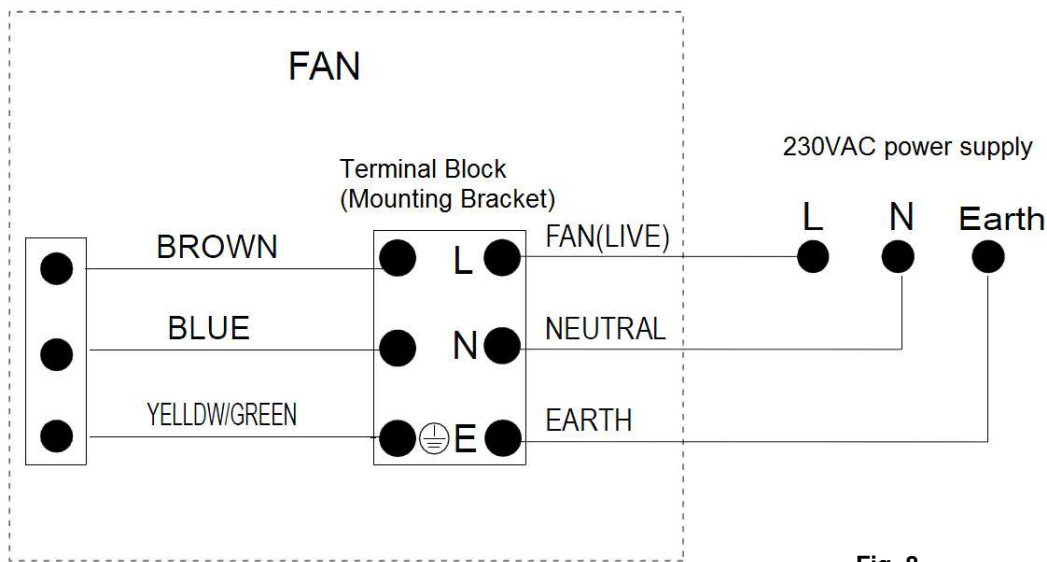

Fig. 8
- Refer to the wiring diagram provided for Electrical Connection/installation. Fig.8